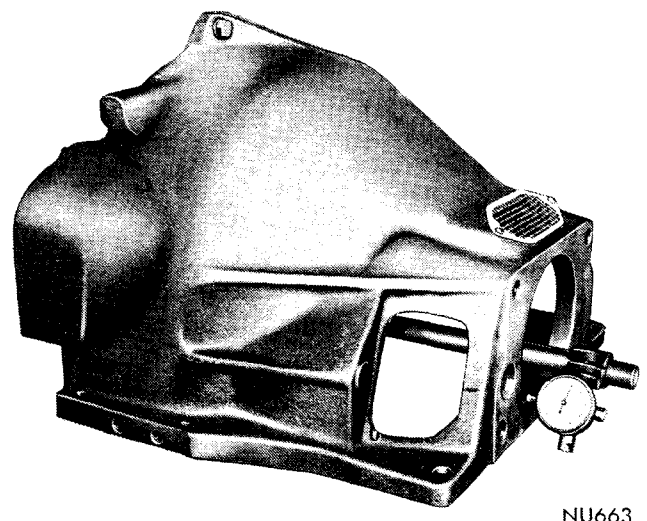

Fig. 8—Face Runout Inspection
(1) Rotate flywheel, using Tool C-771. If total indicator reading is greater than .006 inch, note amount of total indicator reading and location of lowest indicator reading at the point where indicator arm or follower is extended farthest (Fig. 8).
(2) Correct excessive runout by placing proper thickness of shim stock between clutch housing and engine block or between transmission and clutch housing.
(3) Recheck face runout and tighten housing bolts to 50 foot-pounds.
(4) Install transmission as outlined in appropriate Transmission section.